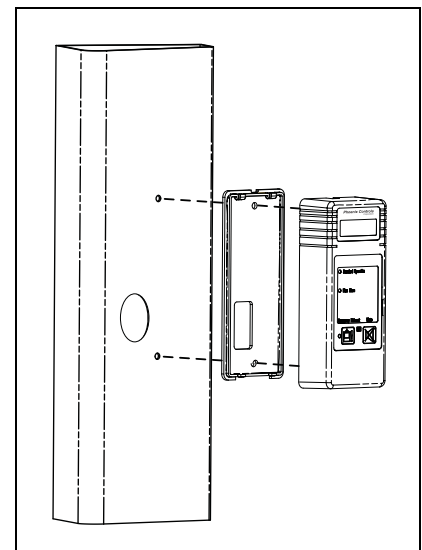

Figure 2. Attaching the Fume Hood Monitor to the fume hood (surface mount).
9. Mount the monitor base to the fume hood using two sheet metal screws (see Figure 2).